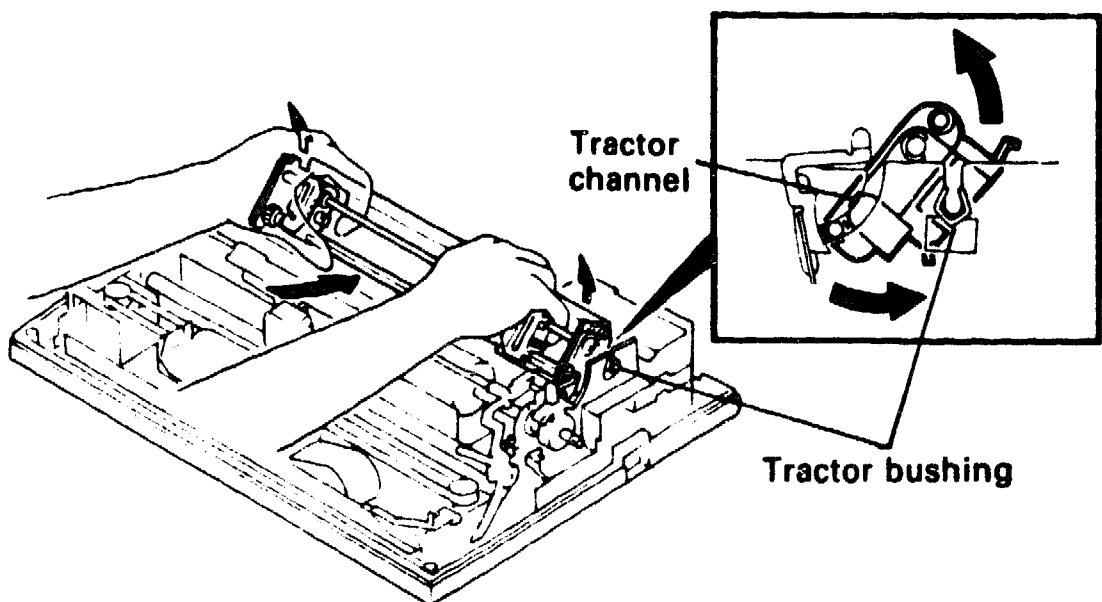

Figure 6-15 Removing the Tractor Assembly (1)
2. Pull up the rear of the tractor assembly to disengage the rear tractor bushings from the clamps (Figure 6-15).